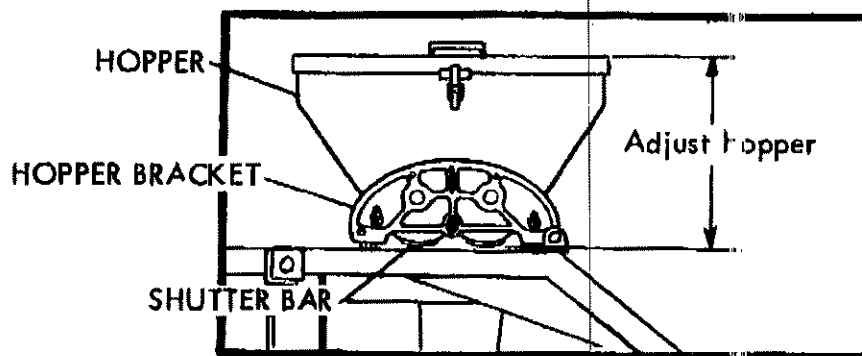

Fig. 7
- D. Repeat procedure on bracket at other end of hopper. (See Fig. 7)